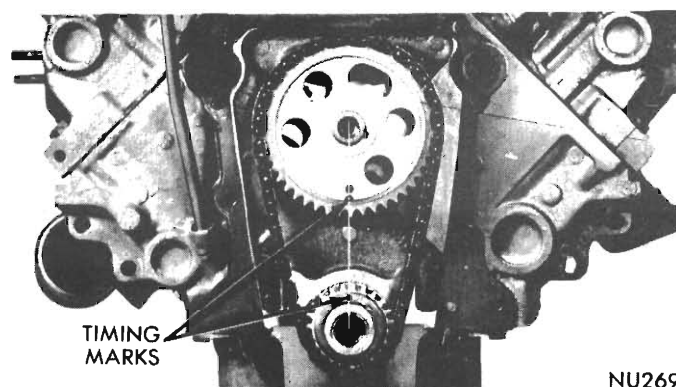

Fig. 17 - Alignment of timing marks
(1) Turn crankshaft and camshaft to line up with keyway location in crankshaft sprocket and in camshaft sprocket.
(2) Place both camshaft sprocket and crankshaft sprocket on the bench with timing marks on exact imaginary centre line through both camshaft and crankshaft bores.
(3) Place timing chain around both sprockets.
(4) Lift sprockets and chain (keep sprockets tight against the chain in position as described).
(5) Slide both sprockets evenly over their respective shafts and use a straight edge to check alignment of timing marks (*Fig. 17*).
(6) Install the fuel pump eccentric, cup washer and camshaft bolt. Tighten bolt to 35 lbs. ft.
(7) Check camshaft for .002 to .006 inch end play with a new thrust plate and up to .010 inch end play with a used thrust plate. If not within these limits install a new thrust plate.